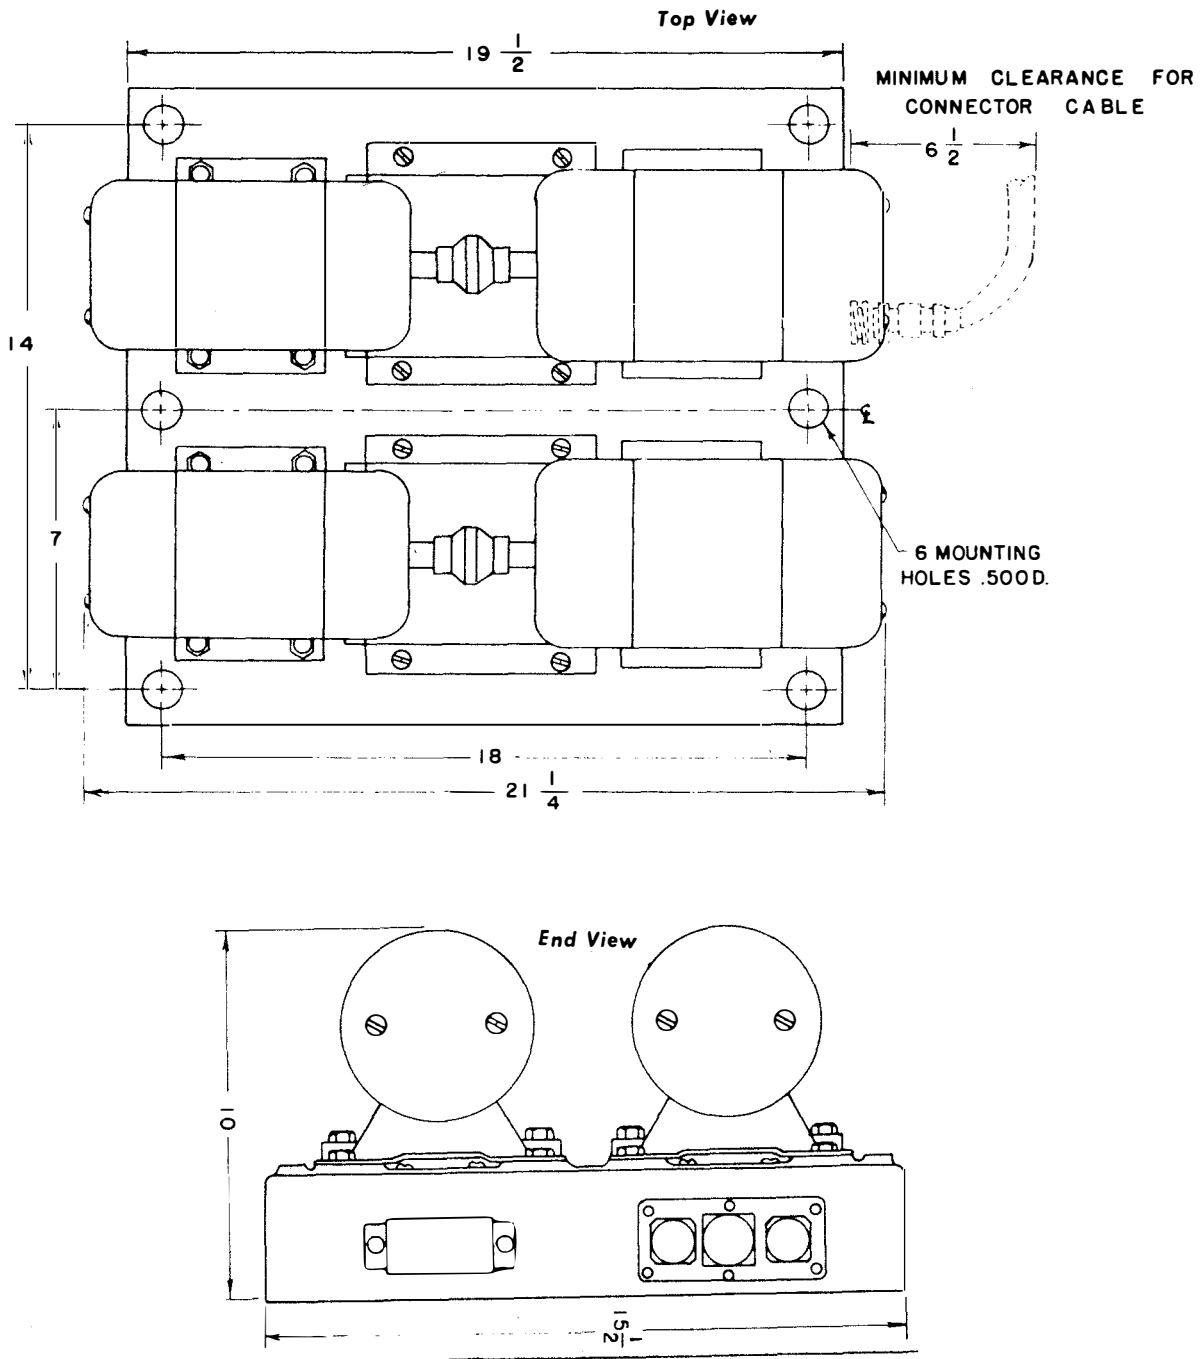

Figure 3-11 Type -211100 and -21827-A Motor Generator Power Units Installation Diagram.
(2) **MOTOR GENERATOR POWER UNITS.**— The Types -211100 and -21827-A Power Units are mounted on identical bases, and therefore require identical mounting facilities. Figure 3-11 shows the mounting dimensions of the unit. Bolts $\frac{3}{8}$ " in diameter should be used to secure the unit. This unit is rather heavy and considerable care should be exercised in the selecting of